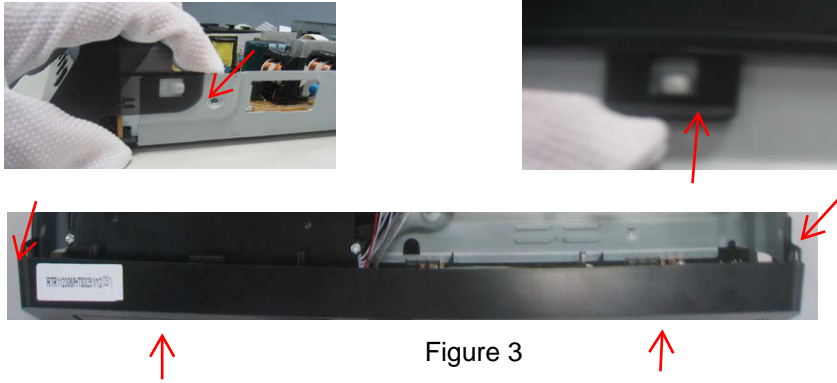

Figure 3
Step3 :Dismantle Front Panel, disconnect the connectors (XP4, XP8,XP12), need release 2 snaps of Front Panel & 2 snaps of bottom cabinet , then gently pull the Panel out from the set. (Figure 3)